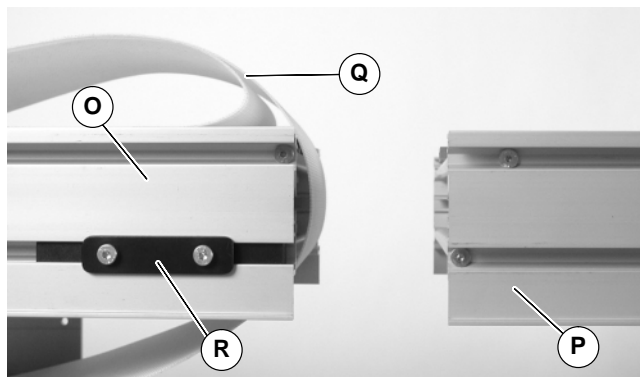

Figure 4
1. Locate conveyor sections (O Figure 4)